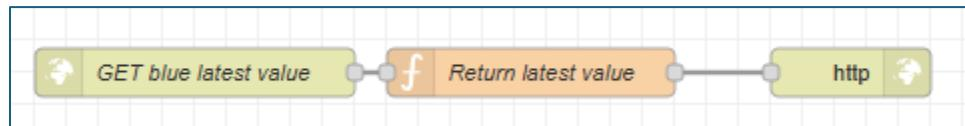

Figure 8 - Implementation of an API REST endpoint in node-red
- The (*Return latest value*) function node must be placed in between the In and Out http nodes as shown in Figure 8.